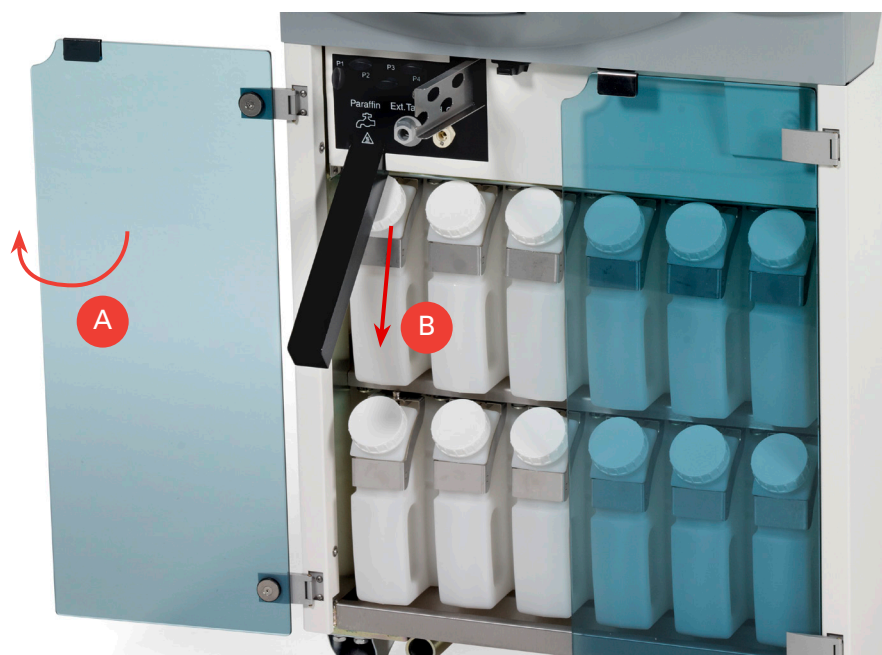

Figure 23. Access the paraffin containers.
1. Open the glass door for access (see Fig. 23, A).
2. Tighten the connection rail by pulling the tension rod down and out completely (see Fig. 23, B).